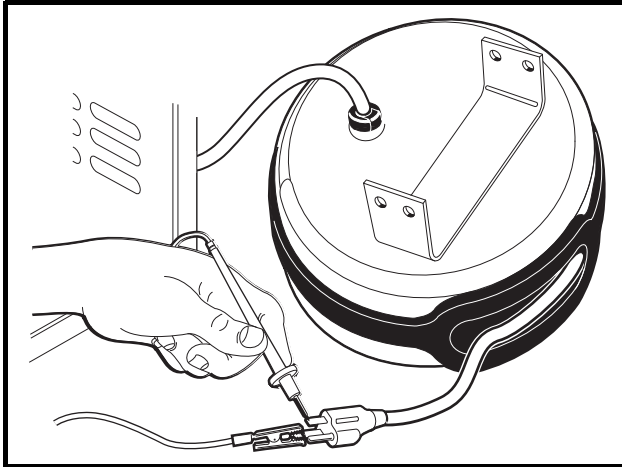

Figure 9-8 AC Circuit Continuity Test
- 5.4. With relay bypassed, there should be continuity across the AC cord blades (**Figure 9-8, Page 9-13**).